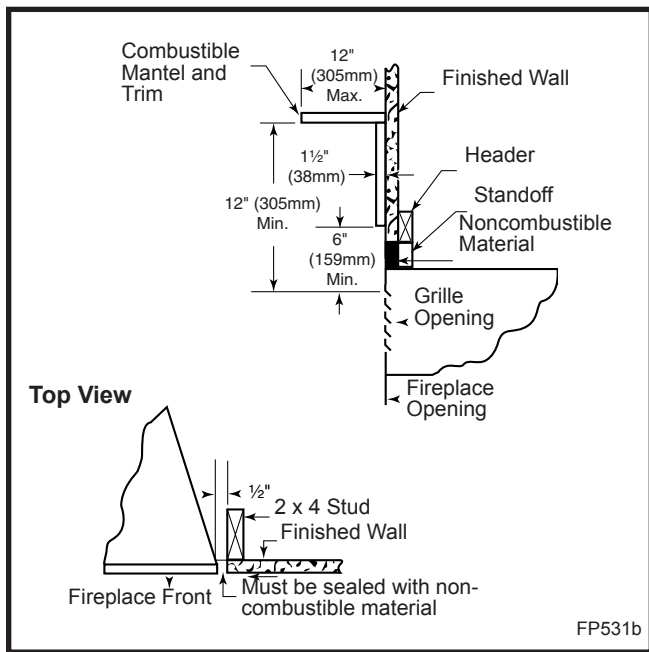

Fig. 22 Mantel clearance.
All joints (top, bottom and sides) where wall or decorative facing material meets fireplace surround must be completely sealed with a noncombustible material. (Figs. 22 and 23)
Secure the hearth extension to the floor to prevent shifting, using trim molding or other similar means at three (3) outer edges. Seal crack between the fireplace hearth and hearth extension with a noncombustible material. (Figs. 22 and 26)